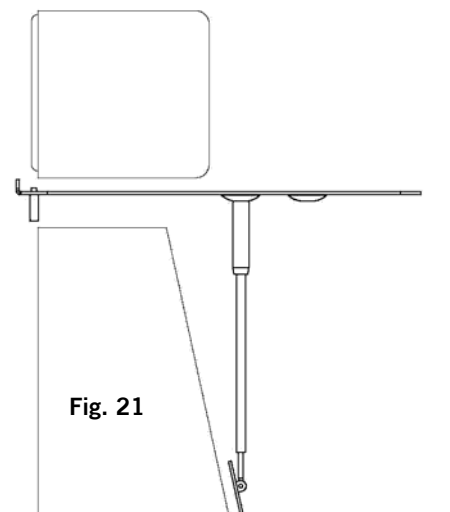

Fig. 21
3. Place the component all the way to the front of the CCH-1, as shown in Fig 21.